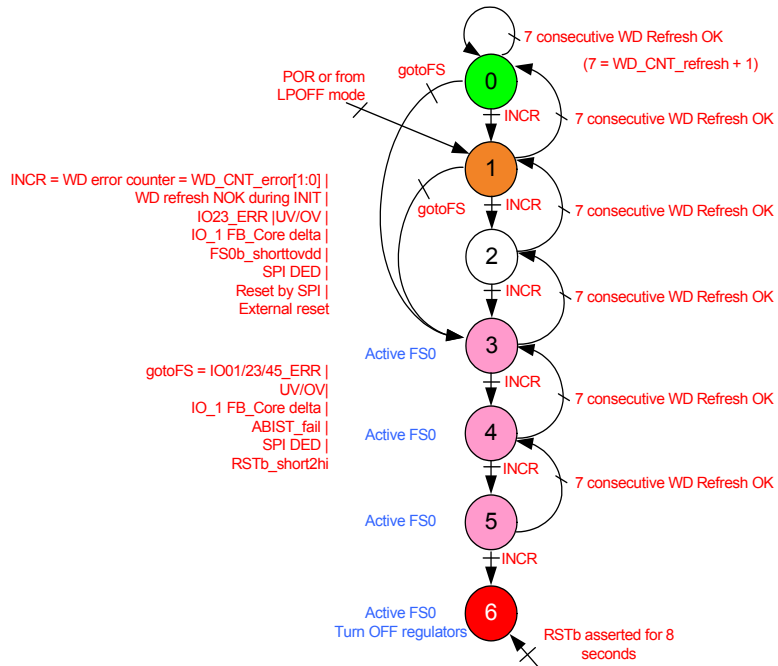

Figure 16. RSTB error counter (RSTB_err_FS = 0)
- RSTB_err_FS = 0 / Intermediate = 3; Final = 6 (Figure 16). When reset error counter reaches 6, the device goes into deep reset and fails.